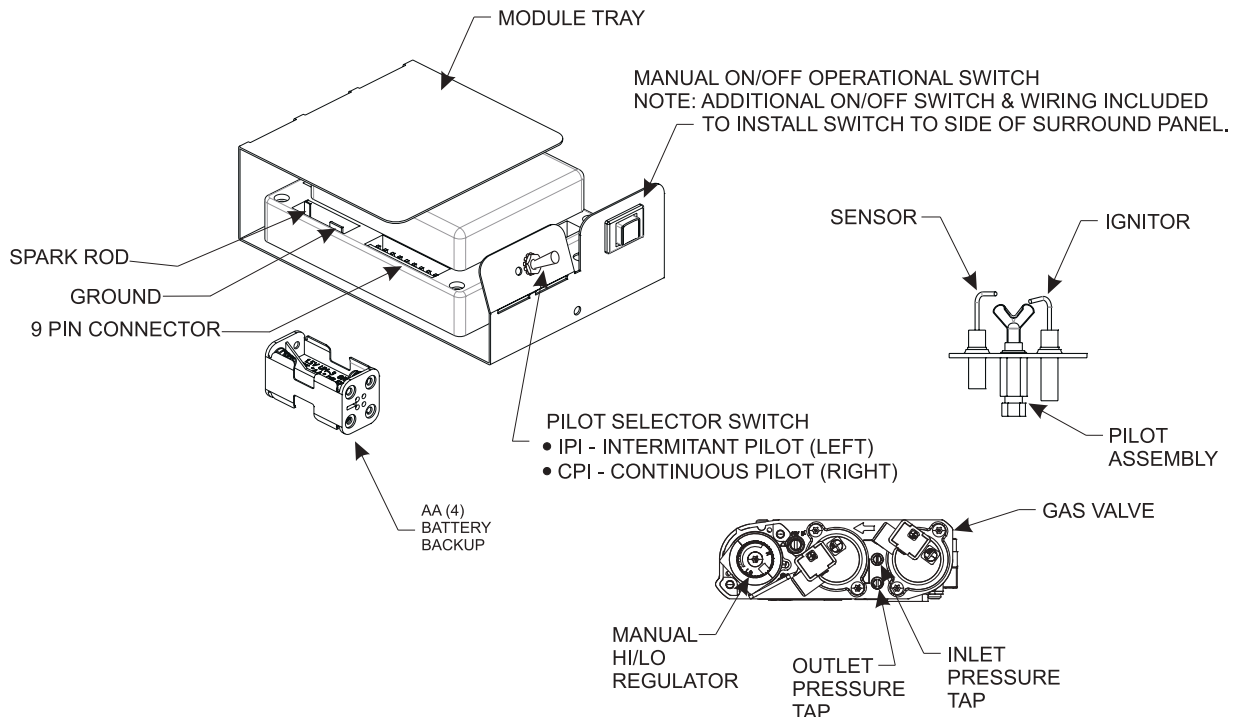

Figure 79
NOTICE: A small toggle switch is located on the front of the module tray that is used to switch from IPI (left) to the CPI (right). See Figure 79.
3. The gas valve has inlet and outlet pressure taps as shown in Figure 79. Refer to page 13 for gas pressure requirements.
NOTICE: The gas control has a manual HI/LO flame adjustment knob (regulator) that allows you to increase or decrease the height of the burner flame. See Figure 79. Rotate the HI/LO knob counterclockwise to "HI" to increase the flame height, and clockwise to "LO" to decrease the flame height.
To connect the remote receiver to the fireplace, first disconnect the ON/OFF switch wires from the white and green wire connectors and connect the wires from the remote receiver to the green and white wire connectors. See Figure 79. Follow the instructions included with the remote control for programming and other operational information.